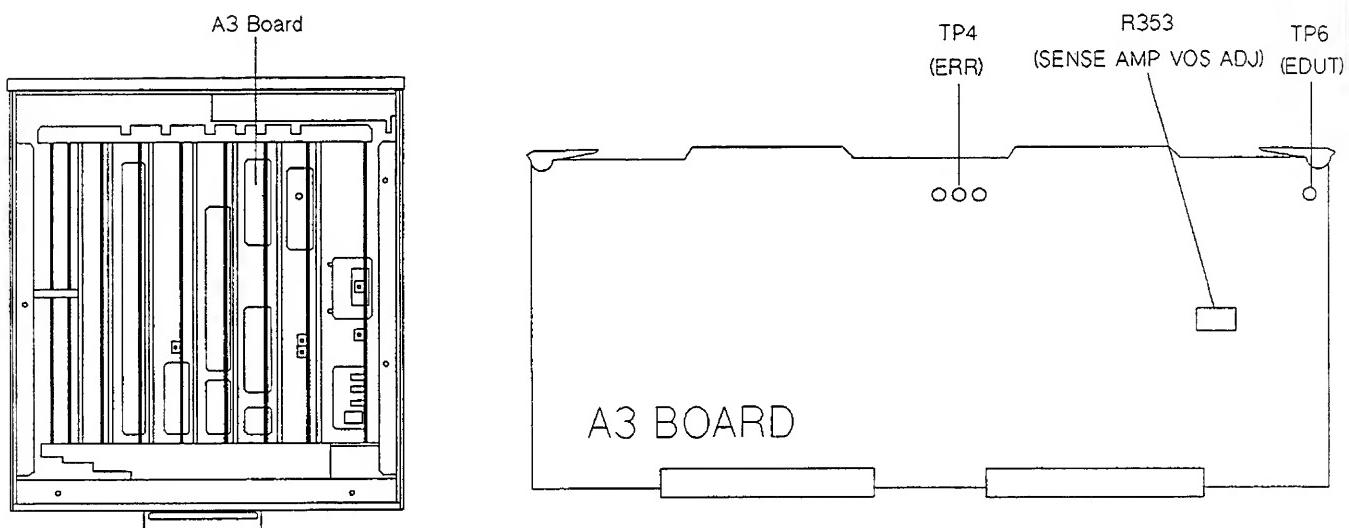

Figure 2-9. Sense Amplifier DC Offset Adjustment Location
5. Connect the multimeter Lo input to A3TP4 (ERR). Then connect the multimeter Hi input to A3TP6 (EDUT). Figure 2-9 shows the location of TP4 and TP6.
Figure 2-9 shows the location of A3R353.